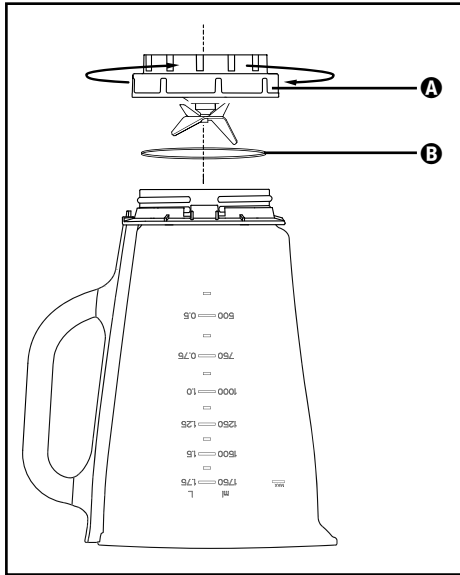

Fig. 3
- 2) Turn the appliance upside down and turn the attachment **A** anticlockwise so that it can be detached from the jug of the blender **3** (see Fig. 3).